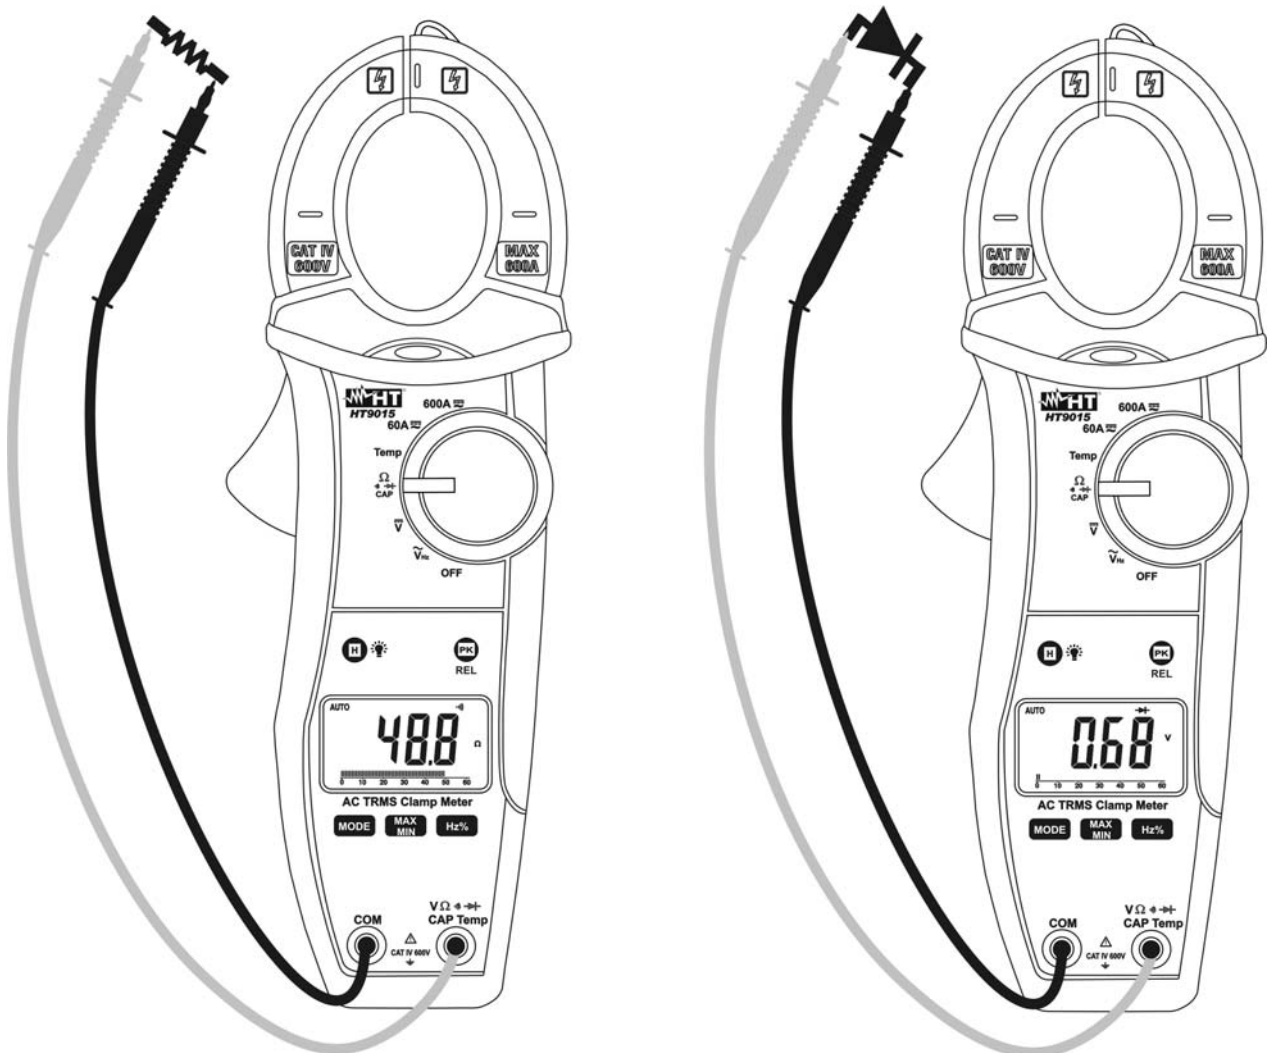

Fig. 6: Taking Continuity test and Diode test
3. Insert the red test lead plug into $V\Omega \cdot \text{bell}$ \rightarrow **CAPHz%Temp** jack and the black test lead plug into **COM** jack and perform continuity test on the object under test (see Fig. 6 – left side). Buzzer emits sound if the measured resistance value is less about 60Ω
5. Connect the red test leads to the anode of diode on test and the black test lead on the cathode ones (see Fig. 6 – right side). Reverse position of test leads to reading reverse polarization voltage